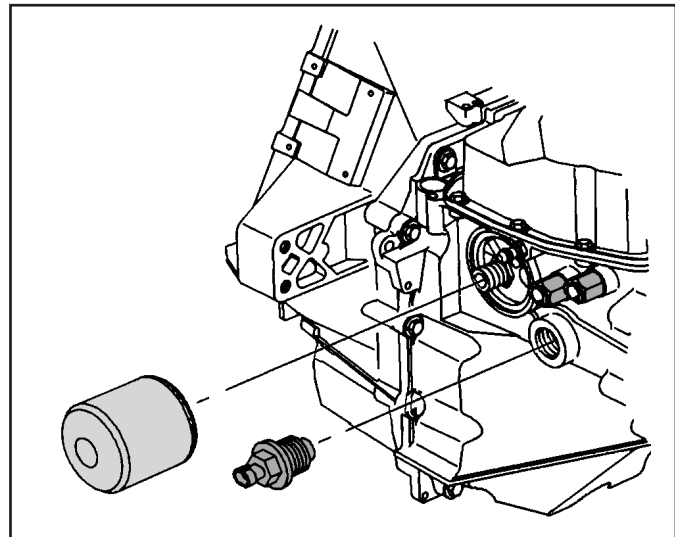

Figure 225
64. Using transmission fluid, lubricate the filter seal. Spin the filter on until the seal makes contact to the case and tighten one complete turn (See Figure 225).
66. Install the input shaft speed sensor (See Figure 225) and torque to 26 N•m (19 ft. lbs).